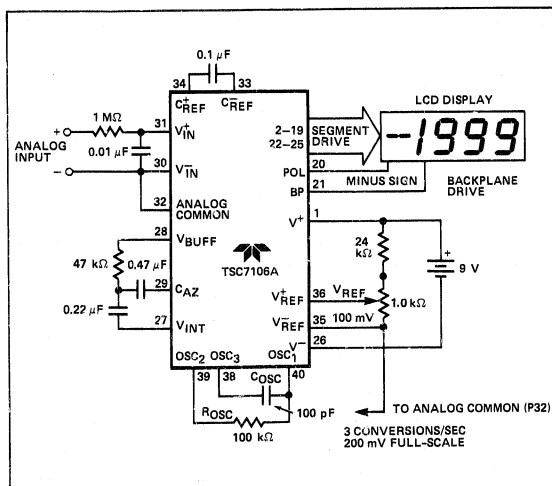
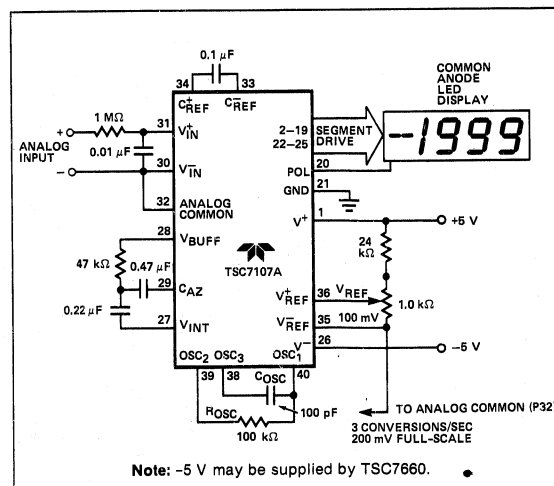

Figure 1: Typical TSC7106A Operating Circuit
Figure 2: Typical TSC7107A Operating Circuit
- Unless other wise noted, specifications apply to both the TSC7106A and TSC7107A at $T_A = 25^\circ\text{C}$, $f_{\text{LOCK}} = 48\text{ kHz}$. TSC7106A is tested in the circuit of Figure 1. TSC7107A is tested in the circuit of Figure 2.